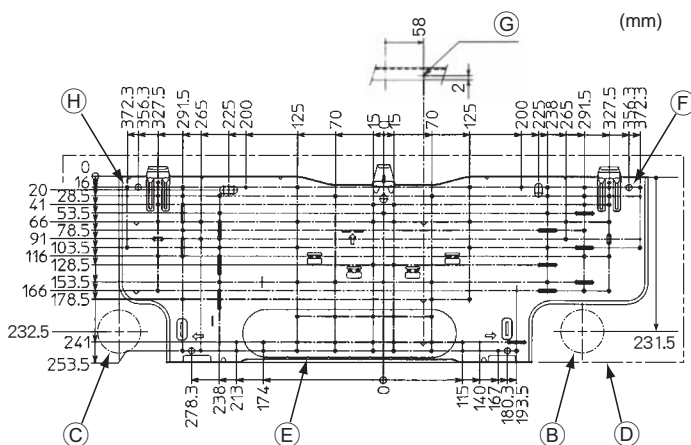

Fig. 3-2
①	Mount board	1	Fix at the back of the unit
②	Tapping screw 4 × 35	12
③	Felt tape	3
④	Band	3
⑤	Wireless remote controller	1
⑥	Remocon holder	1
⑦	Alkali batteries (size AAA)	2
⑧	Tapping screw 3.5 × 16	2
⑨	Block of cushion	1
3.2. Installing the wall mounting fixture (Fig. 3-2)